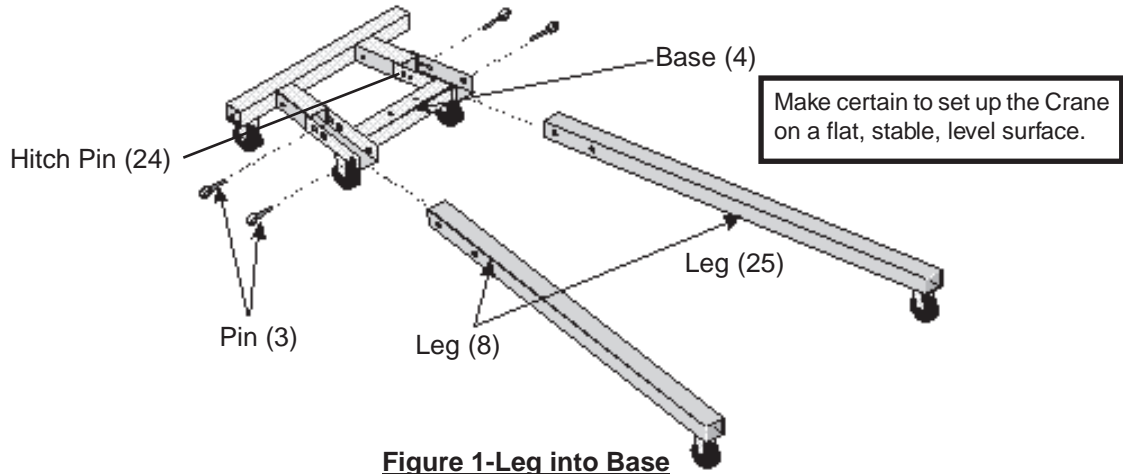

Figure 1-Leg into Base
Slide each Leg (8 & 25) into each of the two slots on top of the Base (4). Insert two Pins (3) through the Base (4) at the junction of each Leg (8 and 25). Attach a Hitch Pin (24) through each of the four (4) Pins (3) to secure together - see Figure 1.